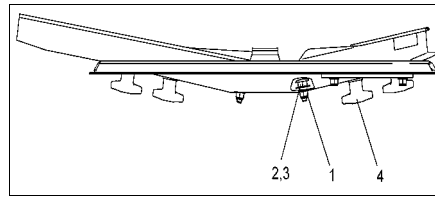

Fig. 39
- Slacken self-locking nut (Fig. 39/1).
- Remove washer and flat mushroom head bolt (Fig. 39/2,3).
- Slacken thumb nut (Fig. 39/4) and exchange spreading vanes.
- Tighten the self locking nut (Fig. 39/1) in such a way that the spreading vane can be swivelled by hand.